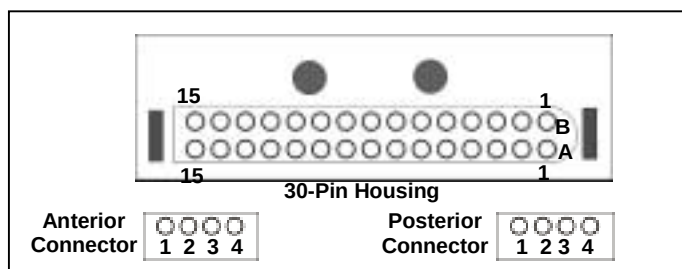

Figure 22: Pin layouts of 30 pin housing, anterior and posterior connectors.
Step 3 – Make sure there is continuity between the appropriate pin at the 30-pin connector that plugs into the system and the connectors that plug into the anterior and posterior coils (see *Figure 22* and Center Pin and Ground Connections – Table 3-3 for the correct pins).